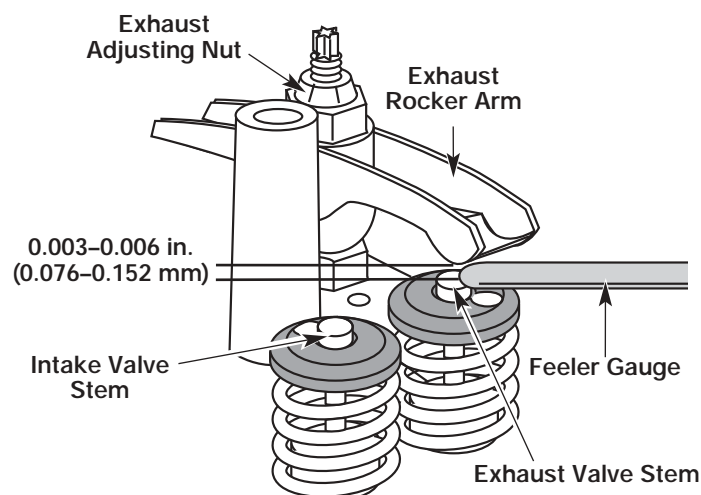

Fig. 67
- a. Turn the adjusting nut using a 5/16 inch (8 mm) wrench or nut driver (Fig. 67).